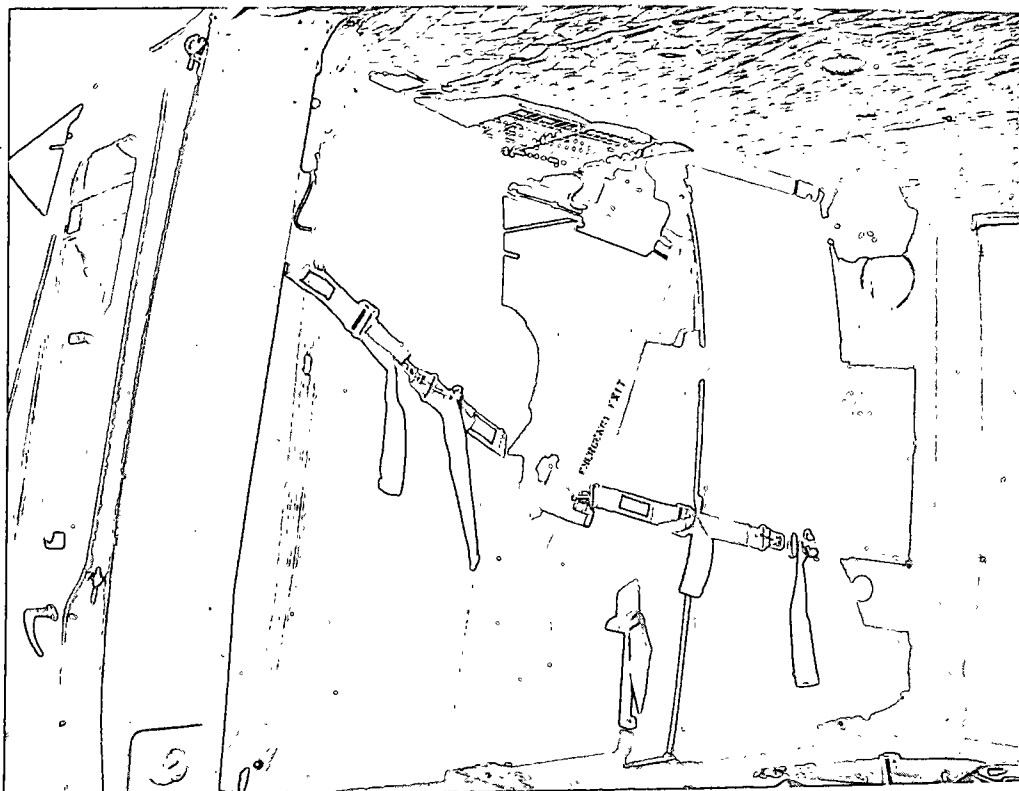

Figure 2-56. Tiedown of forward cargo doors in the UH-1 helicopter.
e. All UH-1 helicopters: Remove forward cargo doors and stow, cushion, and tie down in the helicopters as shown in figure 2-56.